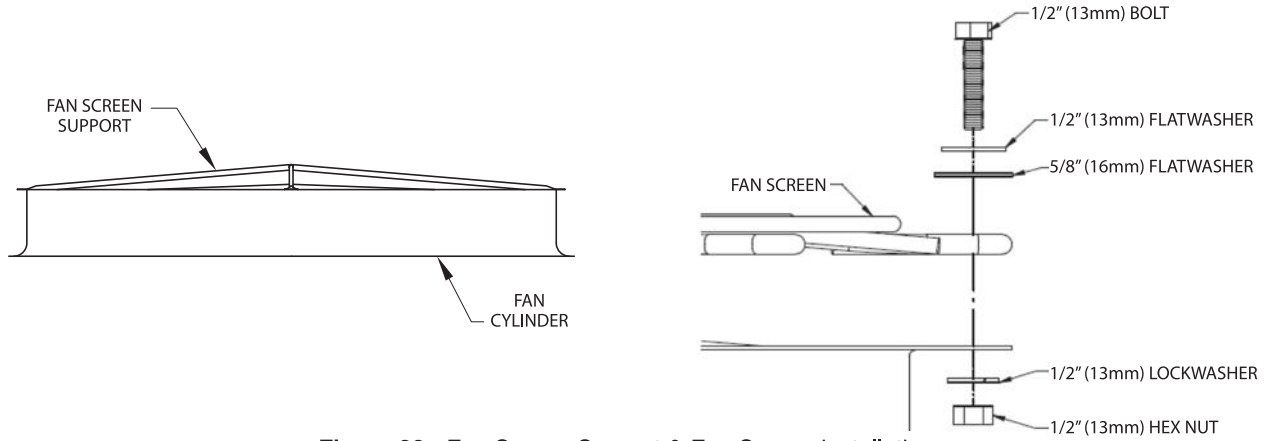

Figure 22 - Fan Screen Support & Fan Screen installation
1. Set the fan screen support across the top of the fan cylinder as shown in Figure 22.
4. At each hole, attach the fan screen to the fan cylinder as shown in Figure 22. At the four points where the fan screen support meets the cylinder, bolt the support to the cylinder together with the fan screen.